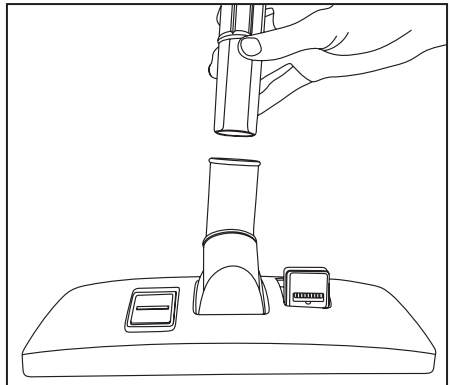

Fig. 5
- Attach the rug/floor tool to the end of the extension wand(s) for cleaning floors and area rugs (Fig. 5).